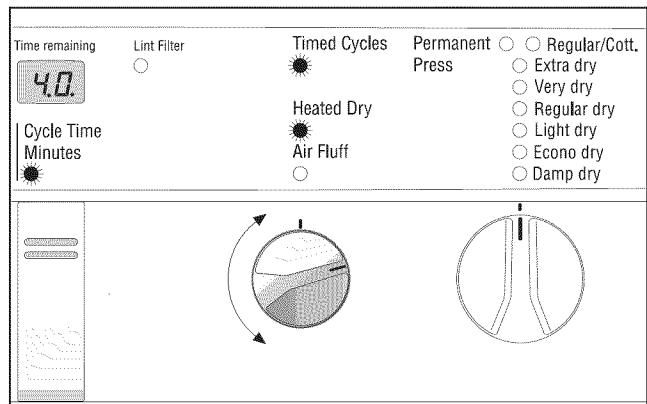

Figure 4.
- b. To use **Time Cycles** (dryer runs for selected length of time) activate by turning the time program selector (see Figure 4):